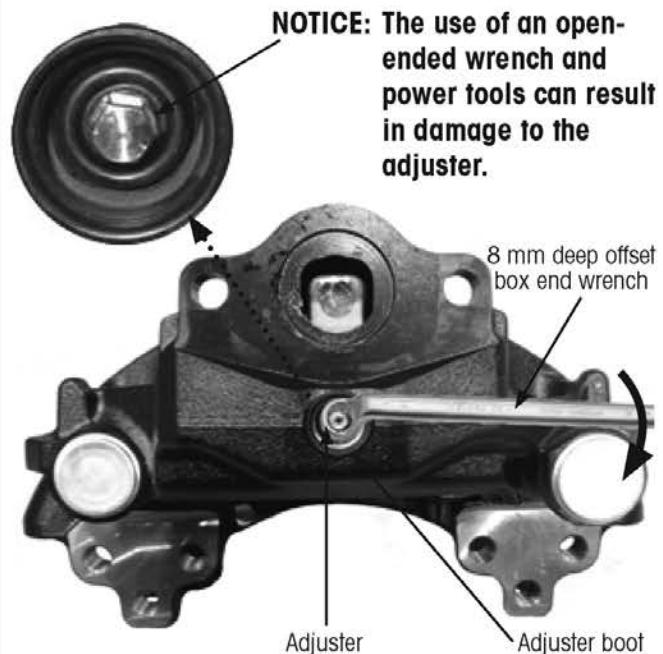

Figure 6: Checking adjuster movement.
4. Use an 8 mm deep offset box end wrench to **turn** the adjuster 1/2 turn clockwise (Figure 6).
5. This step requires two people: **Gently apply the brake** 5 times (braking pressure is approximately 14.5 psi, 1 bar). If the adjuster functions correctly, the wrench will turn incrementally (Figure 6).
- The adjuster or the attached wrench does not turn (Figure 6).